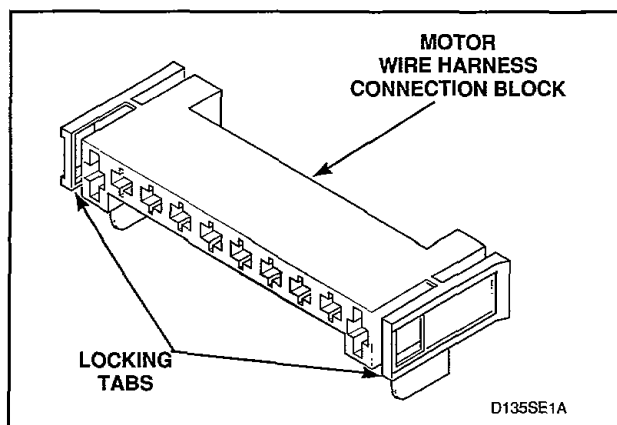

Figure 39
- g. Disengage motor wire harness connection block from motor switch by pressing in on the movable locking tabs (located on each end of the connection block) and pulling away from motor, *Figure 39*.
- (1) Disengage motor wire harness connection block from the motor by pressing in on the movable locking tabs (located on each side of the connection block) and pulling connection block away from motor, *Figure 39*.